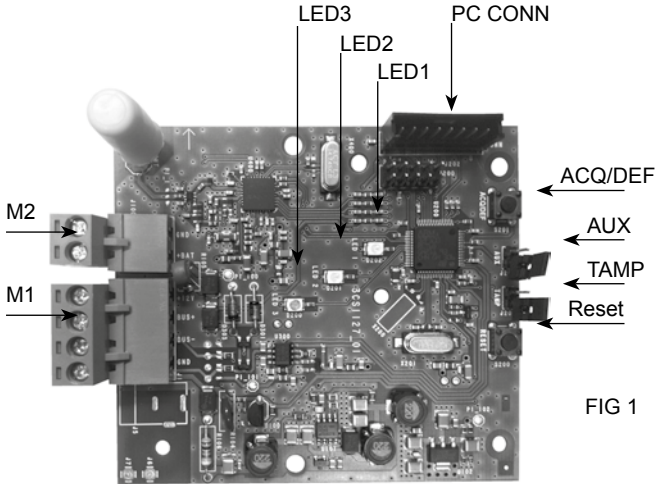

FIG 1
- Install the anti-tear contact (optional) on the bottom of the MOD-BOX and connect it to the interface's J2 jumper Tamper (Fig.1);